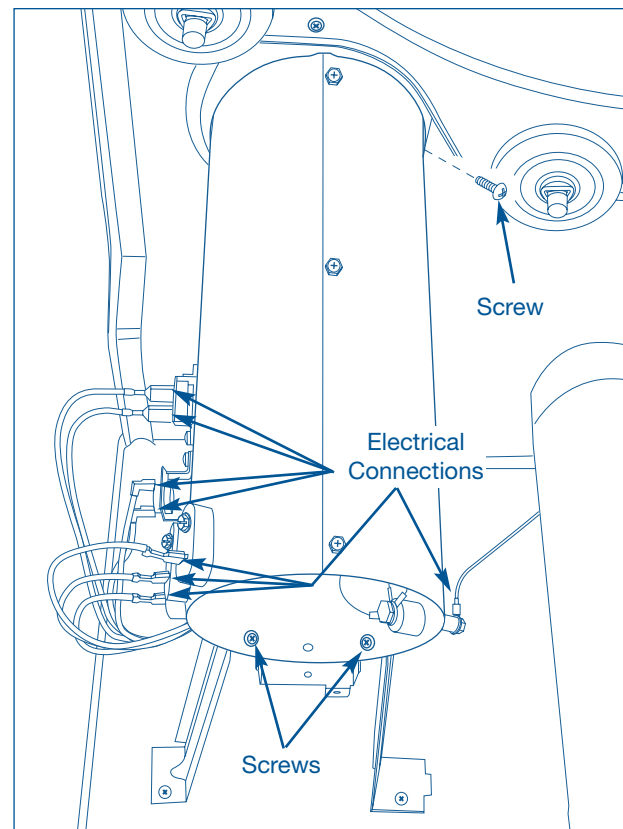

Figure 4-45.
3. Using a #2 square bit screwdriver, extract the two screws at the front of the heater assembly and the single screw at the right rear. (See Figure 4-45)